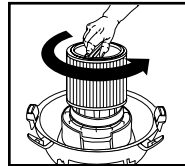

FIGURE 15
22. To remove the filter for cleaning, again hold the tank cover and turn the filter retainer counter-clockwise to loosen and remove. **FIGURE 15.**